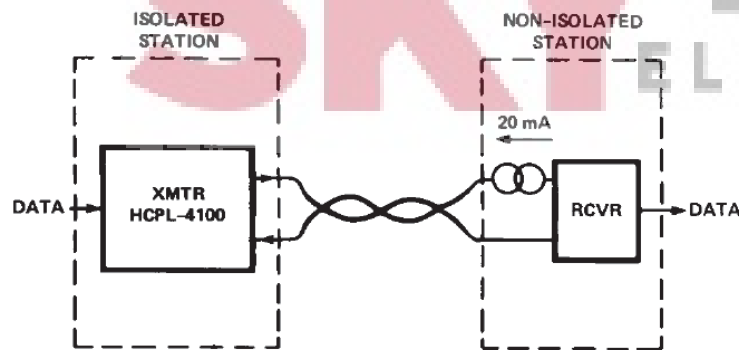

Figure 12. Simplex Point to Point Current Loop System Configuration.
- Derate linearly above a free-air temperature of 70°C at a rate of 2.3 mW/°C. A significant amount of power may be dissipated in the HCPL-4100 output circuit during the transition from the SPACE state to the MARK state when driving a data line or capacitive load (C_{OUT}). The average power dissipation during the transition can be estimated from the following equation which assumes a linear discharge of a capacitive load: $P = I_{SC} (V_{SO} + V_{MO})/2$, where V_{SO} is the output voltage in the SPACE state. The duration of this transition can be estimated as $t = C_{OUT} (V_{SO} - V_{MO})/I_{SC}$. For typical applications driving twisted pair data lines with NRZ data as shown in Figure 12, the transition time will be less than 10% of one bit time.
The simplex configuration, whether point to point or multidrop, gives unidirectional data flow from transmitter to transmitter(s). This is the simplest configuration for use in long line length (two wire), moderate data rate, and low current source compliance level applications. A block diagram of simplex point to point arrangement is given in Figure 12 for the HCPL-4100 transmitter optocoupler.